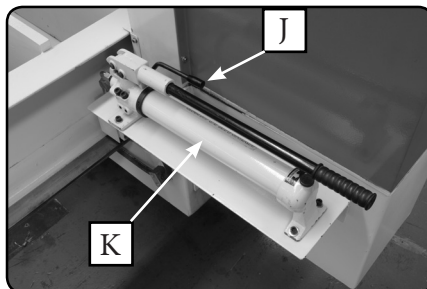

Fig. 12
- K. Hand Pump - Locks the main frame to the table. (Fig.12)